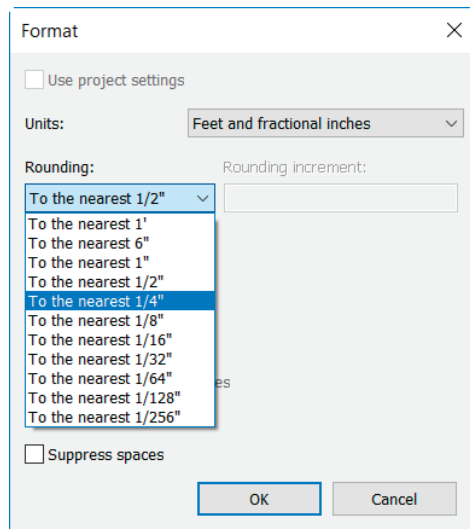

Figure 2-35 The **Format** dialog box
3. Click on the **Rounding** drop-down list and select the desired option, as shown in Figure 2-35.